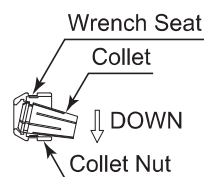
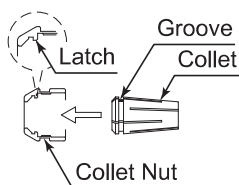
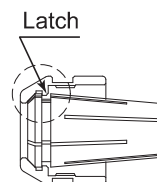

Fig. 7
Fig. 8
Fig. 9
- (2) The collet and collet nut are secured by a groove in the collet and a flange in the collet nut. To remove the collet hold the collet nut in one hand and push diagonally down on the collet. The collet should be released (Fig. 7).
- (3) To install the collet, hold the collet at a slight angle, and insert it into the collet nut (Fig. 8). Press the collet in the collet nut by positioning the collet in the collet nut and pressing down on flat surface (Fig. 7). Be sure to fully engage the latch inside the collet nut into the groove on the collet's outer circumference area (Fig. 9).